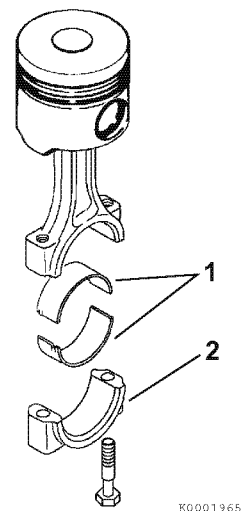

Figure 6-95
When correctly assembled, the piston identification mark (**Figure 6-95, (2)**) stamped into the top of the piston will be on the same side of the connecting rod as the match marks (**Figure 6-95, (4)**) stamped into the connecting rod and connecting rod cap.
When installed in the cylinder, the piston identification mark (**Figure 6-95, (2)**) stamped on the top of the piston must face the fuel injection pump side (**Figure 6-95, (1)**) of the engine and the embossed mark on the connecting rod (**Figure 6-95, (3)**) must face the flywheel end (**Figure 6-95, (5)**) of the engine.
4. Reinstall the bearing inserts (**Figure 6-95, (1)**) in the connecting rod and cap.
6. Apply a light coat of clean engine oil to the rod cap bolts. Reinstall the connecting rod cap (**Figure 6-95, (2)**). Tighten the connecting rod bolts to the specified torque in two stages (1/2 then full torque). See *Special Torque Chart* on page 6-16 for specifications.